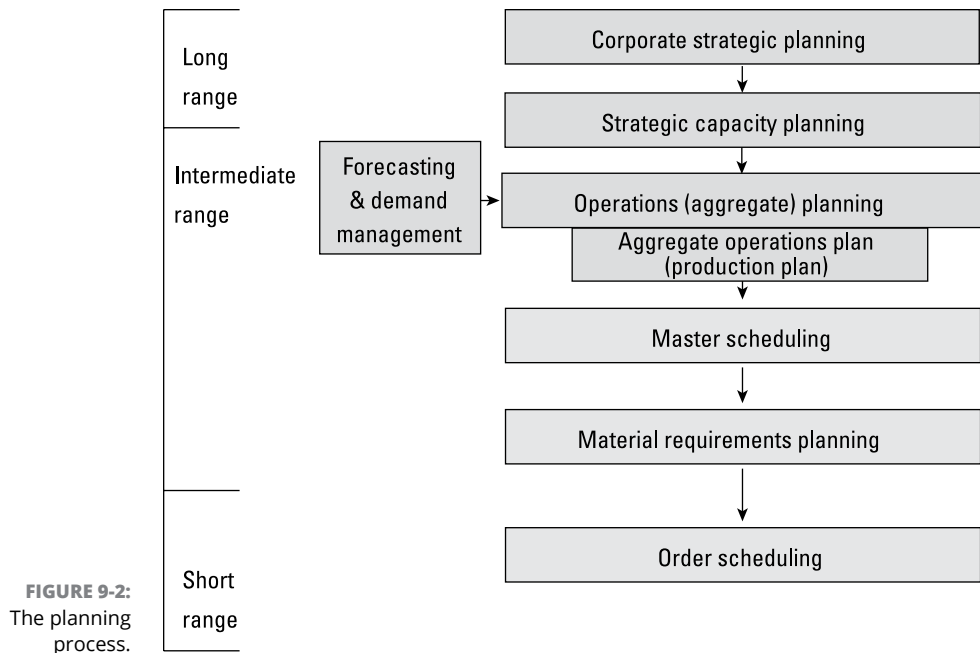

FIGURE 9-2:
The operations planning process starts at the corporate level with a strategic plan for the company. The overarching corporate strategy guides the aggregate operations plan; this relationship is shown in Figure 9-2.
The end product of aggregate planning is the production plan, which guides the development of a master schedule (MS), which informs detailed schedules for operations. These relationships are illustrated in Figure 9-2.